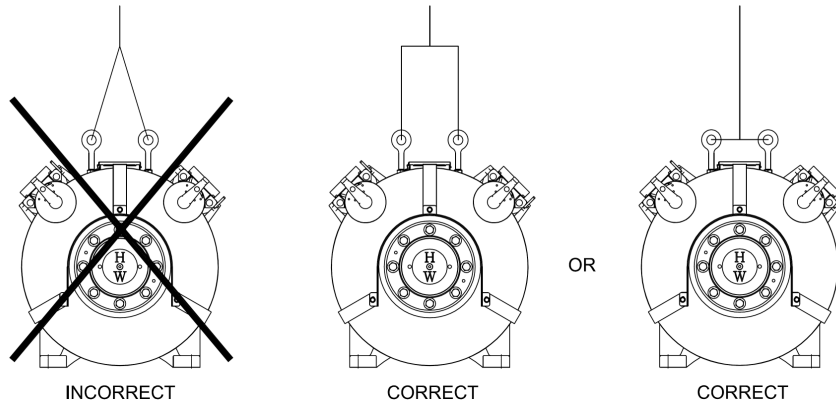

Figure 6
- When hoisting the machine, pull straight up on the hoisting eyebolts using a spreader beam or other suitable rigging apparatus to prevent damage to the eyebolts and possible failure which could result in dropping the machine. Refer to Figure 6 for the proper hoisting methods and Table 1 for the machine weights.